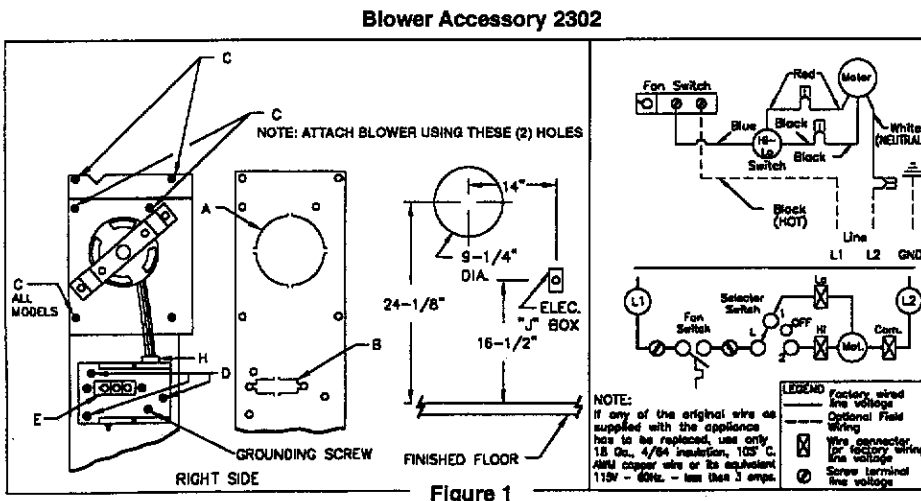

Figure 1
1. Remove the knock-out plates "A" and "B" from right side of the furnace (Figure 1).
3. Attach the blower and junction box to the inner casing using the pre-punched holes with screws "C" and "D" provided with this kit. See Figure 1 below for proper mounting hole to use with your furnace model (see rating plate for furnace model number). Reattach junction box cover.
2. Install 115V line in accordance with local codes, connecting as shown in the wiring diagram below. (Figure 1)